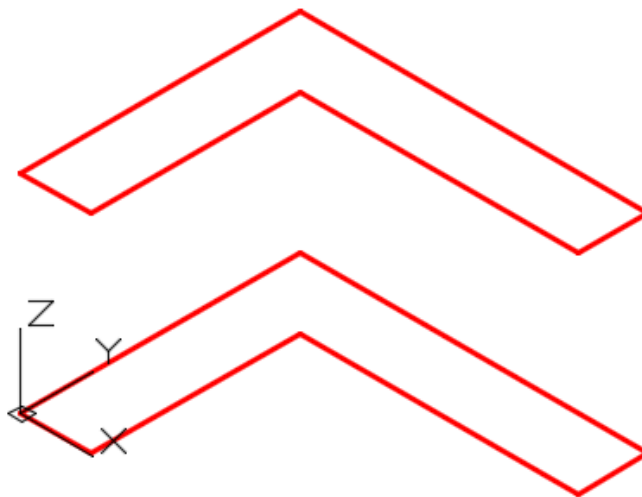

Figure Step 6
Step 6 Copy all of the lines 3 units in the positive Z direction. (Figure Step 6)